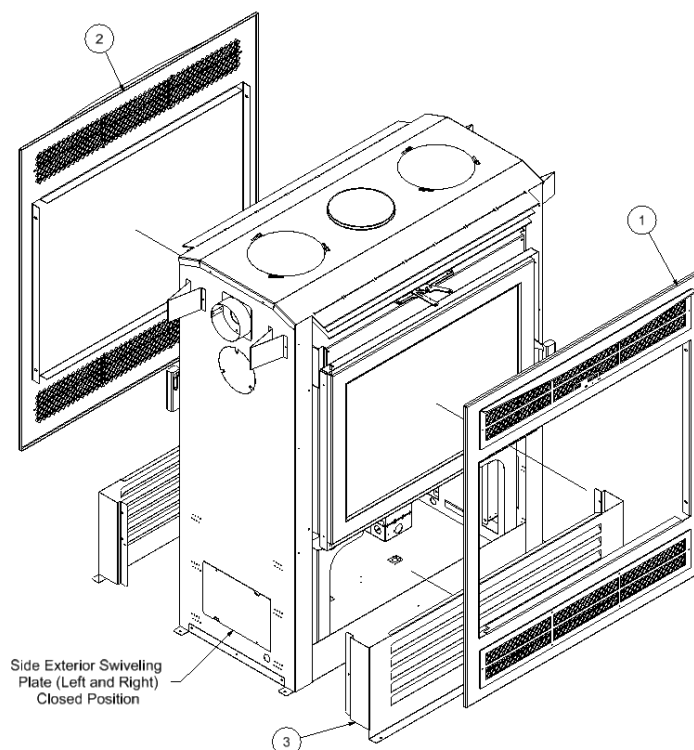

Figure 3-7: Traditional Surround
The Traditional surround comprises louvers below (intake) and above (outtake) the door. All components and fasteners are included in the surround kit. Refer to Figure 3-7 and Table 3-3 for the instructions below.
2. Place the Front Traditional surround (Item 1 in Figure 3-7) within the door holder and secure it in place with four black screws (one on each corner). Make sure that the handles of the Combustion Air Control pass through the slots of the surround.
3. Repeat Step 2 with the Back Traditional surround (Item 2 in Figure 3-7).
6. Secure the Intake Swivel Covers on the bottom sides of the unit to the closed position (Figure 3-7). **WARNING: For Traditional surround installations only.**